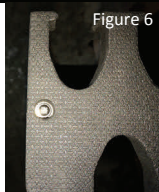

Figure 6
-Peel off the backing from both pieces of tape on parts (#9 and #13). Then use 3x (#3 and #5) to attach (#9) to the top of (#13) as shown in Figure 6. Plug the holes with 3x (#6).